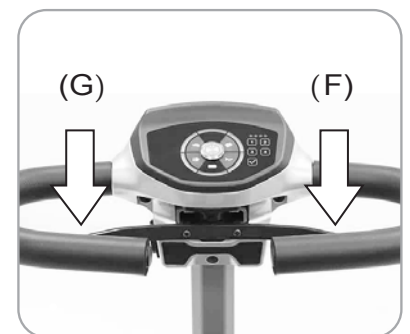

Figure 16
- Pull the right throttle (F) to move scooter forward. Pull the left throttle (G) to move scooter backward. This can be reserved if required by local dealer. (Figure 16)